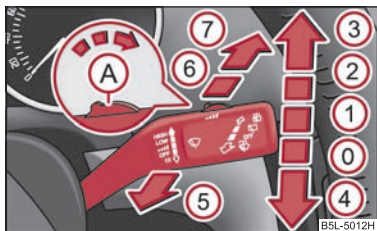

Fig. 50 Windscreen wiper lever
The windscreen wiper lever ⇒ fig. 50 has the following positions:
- If the slower  ⇒ page 63, fig. 50 or the faster  wiper setting is switched on and the vehicle speed decreases to below 4 km/h, the lower wiper step is switched on automatically. At a speed increase of more than 8 km/h the previous wiper setting is established again.
- Push the operating level into the position ⑥ ⇒ page 63, fig. 50 five times in succession within 5 seconds.
The headlights are being cleaned after the windscreen has been sprayed for the first time and fifth time, the low beam or main beam are switched on and the windscreen wiper lever was held in the position ⑤ ⇒ page 63, fig. 50 for about 1 second.
- Then press the windscreen wiper lever in the position ④ ⇒ page 63, fig. 50 within 10 seconds - the wiper arms move into the service position.